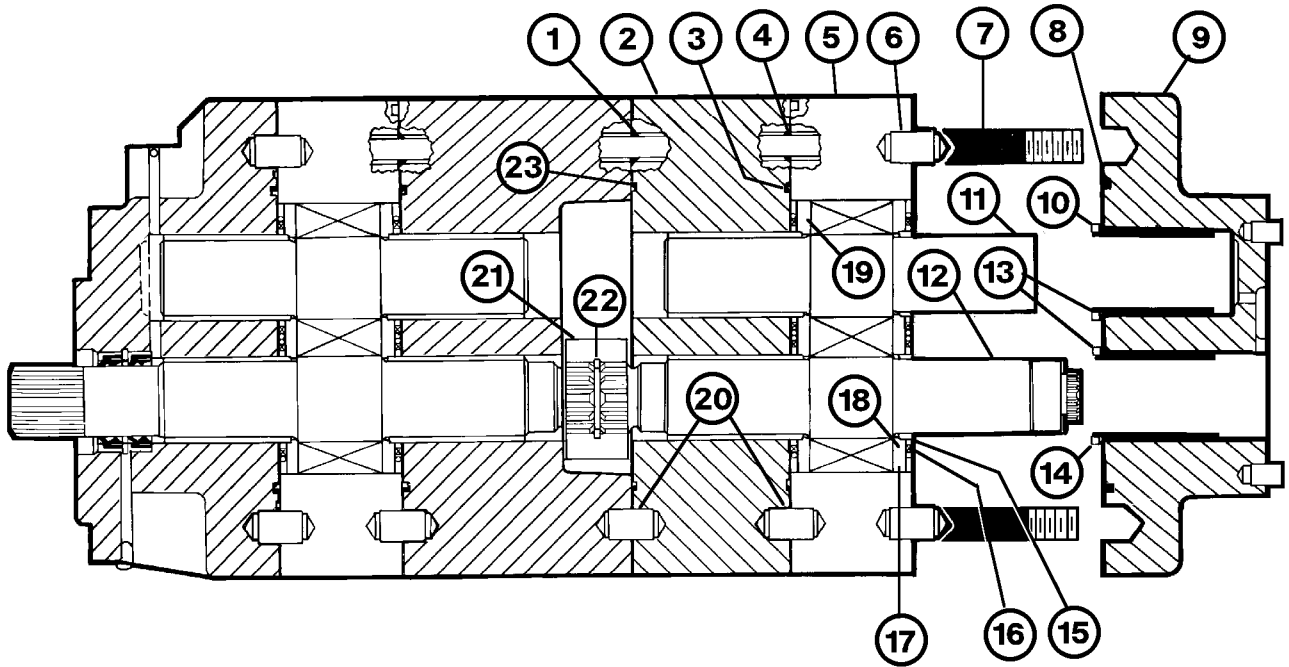

FIGURE 3-5. HOIST PUMP DISASSEMBLY (Rear Section)
- Remove connector plate (9, Figure 3-5). Remove O-ring (8) and steel rings (10) and (14). Remove dowels (6) if damaged, or if connector plate replacement is necessary.
- Remove backup ring (15), O-ring and retainer (16) and isolation plate (17). Grasp the drive gear (12) and idler gear (11) and pull straight up and out of the gear plate (5) bore. Remove pressure plate (18) from gears.
- Remove gear plate (5) and pressure plate (19). Remove steel rings, backup ring, O-ring and retainer and isolation plate. Remove O-ring (3) and stud O-ring (4).
- Remove bearing plate (2, Figure 3-5). Remove O-ring (23) and stud O-rings (1). Remove dowels (20) if damaged or replacement of the bearing plate is necessary.
- Remove coupling (21). Remove snap ring (22) if damaged or replacement is necessary.